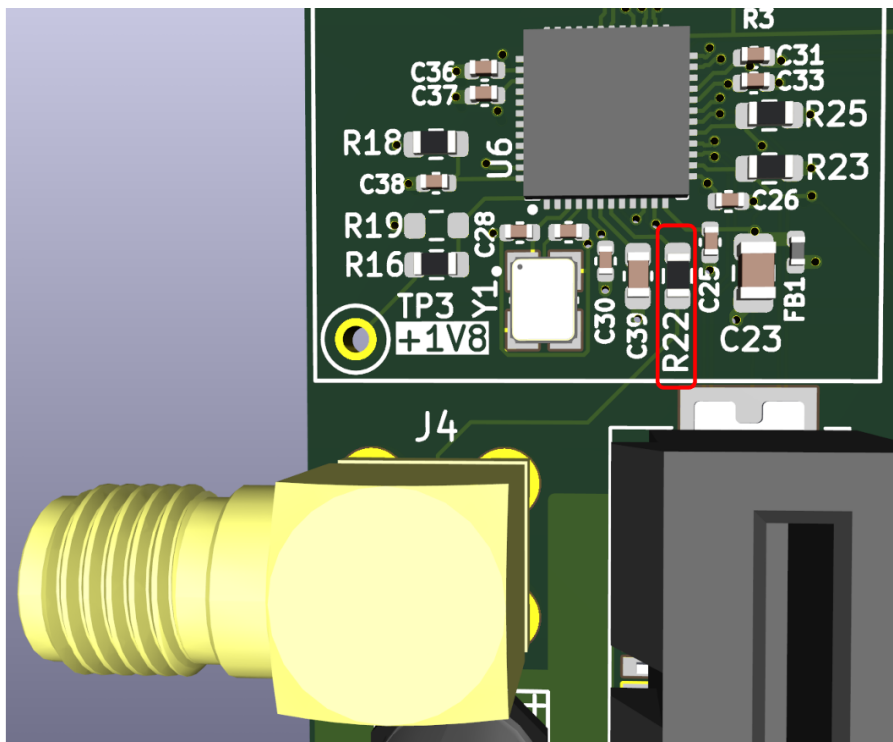

Figure 3: Location of Resistor R22 (25MHz Check)
2. **Step 3.2:** Locate **Resistor R22** (Series resistor for the SMA connector J4). See **Figure 3**.